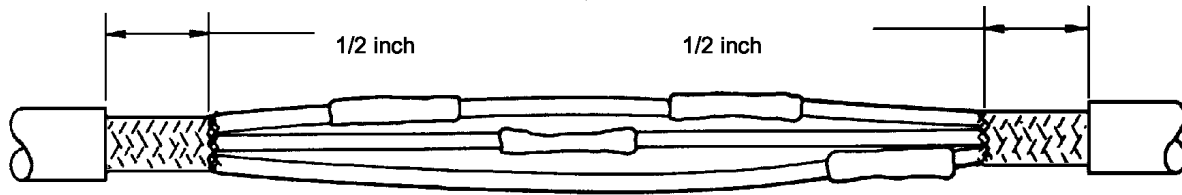

Figure 14. Jacket Peeled Away 1/2 Inch.
- n. Peel insulation away from cable (Figure 14).